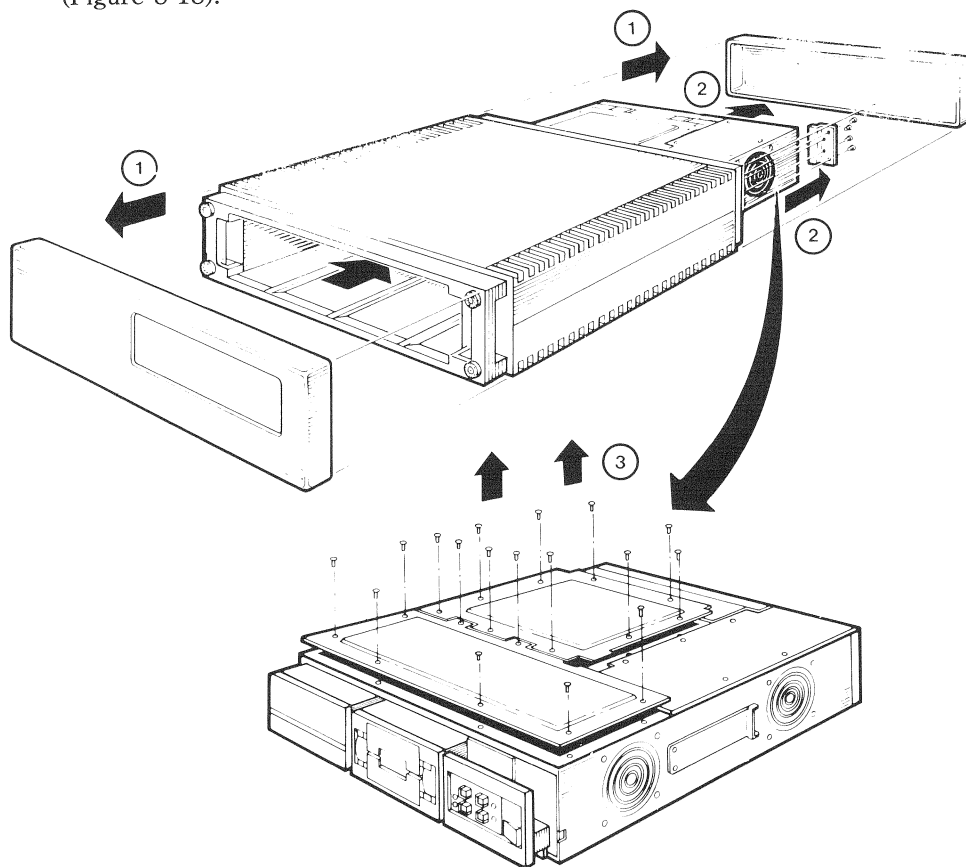

Figure 8-18 Backplane Access
3. Remove both the subsystem storage cover and the Q22-Bus module cover (Figure 8-18).